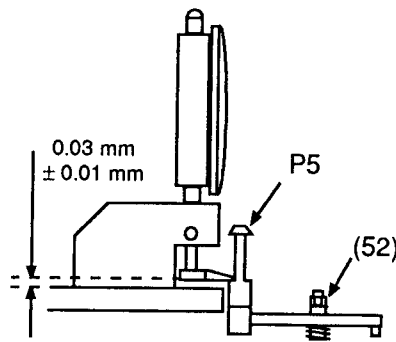

Fig. 33
- Place the Dial Height Gauge as shown in Fig. 33 onto the lower guide collar of the Tape Pull-out Bolt P5 and adjust the nut (52) until the pointer of the Dial Height Gauge indicates  $0.03 \text{ mm} \pm 0.01 \text{ mm}$ .